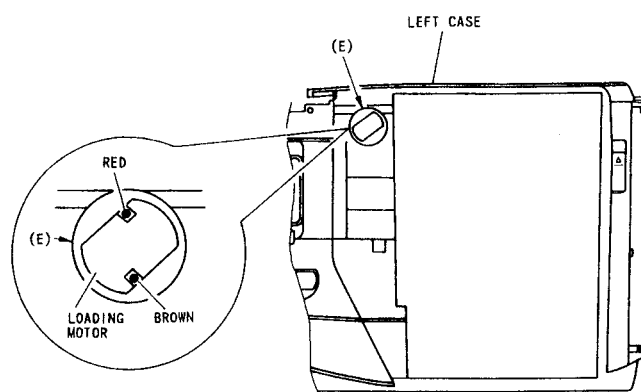
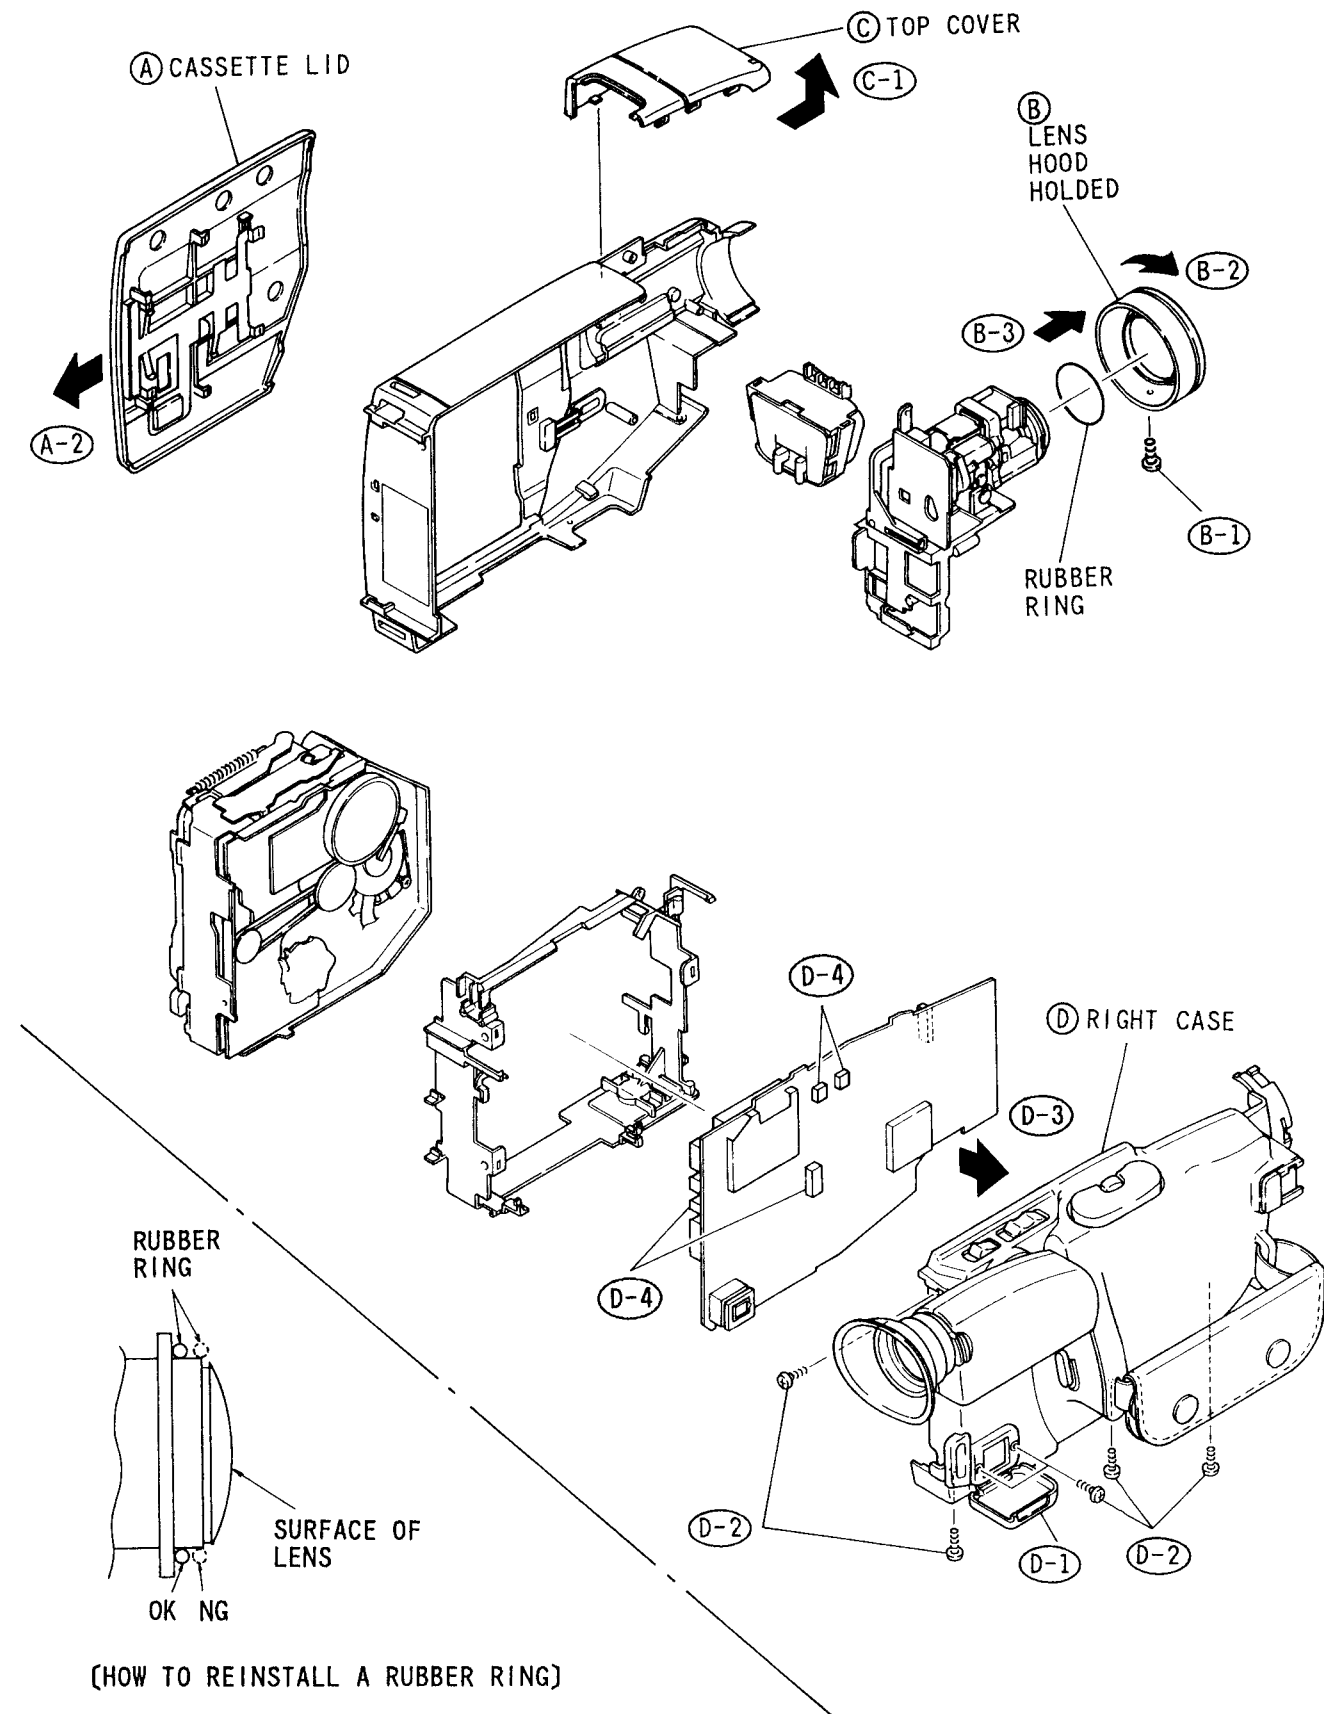

Fig. 2-2
Fig. 3-2
- 2) Release two (2) tabs (C) of the plate spring in the cassette lid in the direction of arrows (B) and remove the cassette lid in the direction of arrow (D).
Note: If the electrical circuit is defective, connect a power supply directly to the loading motor that can be seen through hole (E) in the left case; the camera/recorder can be set to the eject state. (Fig. 2-2) Be careful of the following when supplying power.
- ① Set the power supply to 3-5 V DC. (Do not apply more than 5V as this could result in a secondary defect.)
- ② Connect the red wire to the positive terminal and the brown wire to the negative terminal to activate unloading. Connect the brown wire to the positive terminal and the red wire to the negative terminal to activate loading.
• Lens hood holder	(Fig. 3-2)
• Top cover	(Fig. 3-2)
• Open the right case	(Fig. 3-2)
- 2) Remove the cassette lid in the direction of the arrow. (Fig. 3-2)
B. Lens Hood Holder (Fig. 3-2)
- 1) Remove one (1) screw.
Note: The rubber ring is removed on its own when the lens hood holder is removed. Be sure to reinstall the rubber ring as shown in Fig. 3-2.
C. Top Cover (Fig. 3-2)
D. Open the Right Case (Fig. 3-2)